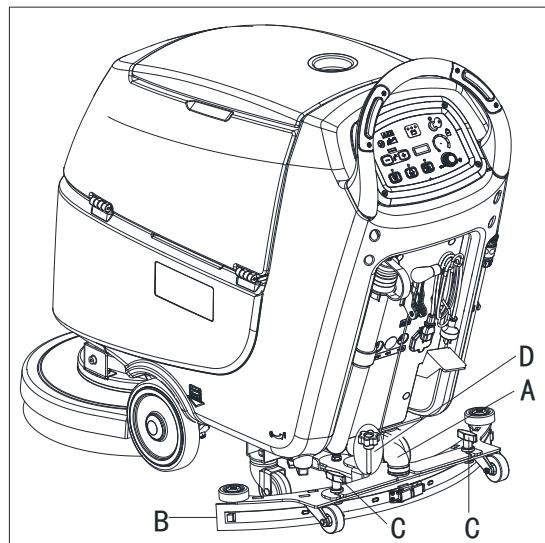
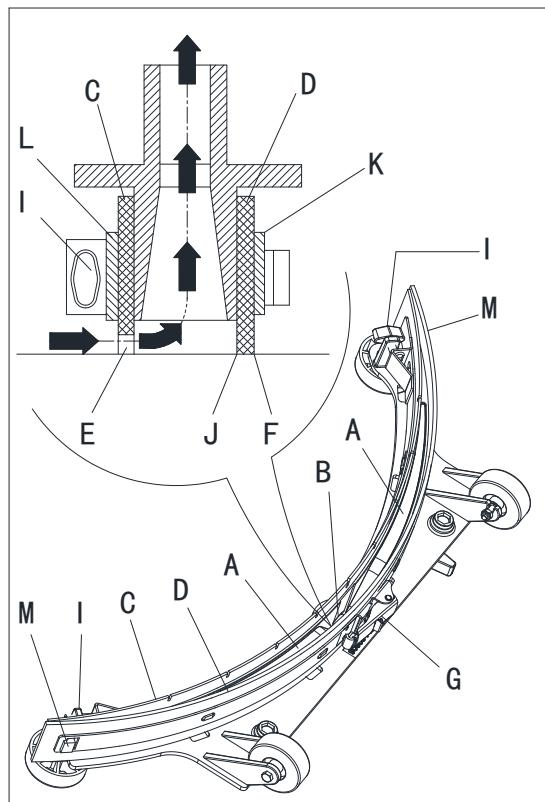

Figure 21
Figure 22
2. Check that the edges (E, Figure. 22) of the front blade (C) and the edges (F) of the rear blade (D) lay down on the same level, along their length; if necessary adjust their height according to the following procedure:
- Remove the tie rod (G), disengage the fasteners (M) and adjust the rear blade (D), then engage the fasteners (M) and install the tie rod (G).
- Loosen the knobs (I) and adjust the front blade (C), then tighten the knobs.
3. Check the front blade (C) and rear blade (D) for wear, cuts and tears; if necessary replace them according to the following procedure. Check that the front corner (J) of the rear blade (D) is not worn; if necessary, overturn the blade to replace the worn corner with an integral one. If the other corners are worn too, replace the blade according to the following procedure:
- Remove the tie rod (G), disengage the fasteners (M) and remove the retaining strip (K), then replace/overtake the rear blade (D). Assemble the blade in the reverse order of disassembly.
- Unscrew the knobs (I) and remove the retaining strip (L), then replace the front blade (C). Assemble the blade in the reverse order of disassembly. After the blade replacement (or overturning), adjust the height as shown in the previous step.
4. Connect the vacuum hose (A, Figure. 21) to the squeegee.
5. Install the squeegee (B) and screw down the knobs (C).
6. If necessary, adjust the squeegee balance adjusting knob (D).